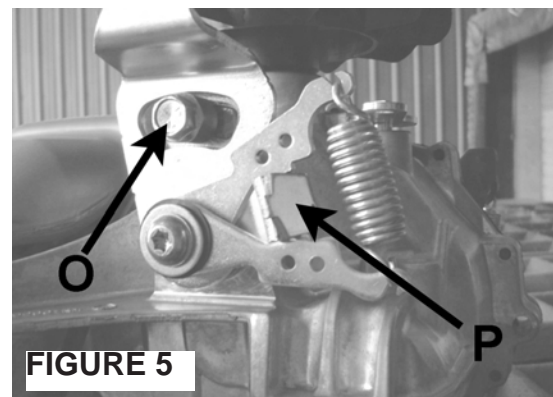

FIGURE 5
3. Rotate plate **P** to the position where the wheels will no longer turn. Retighten bolt **O**. (Figure 5)